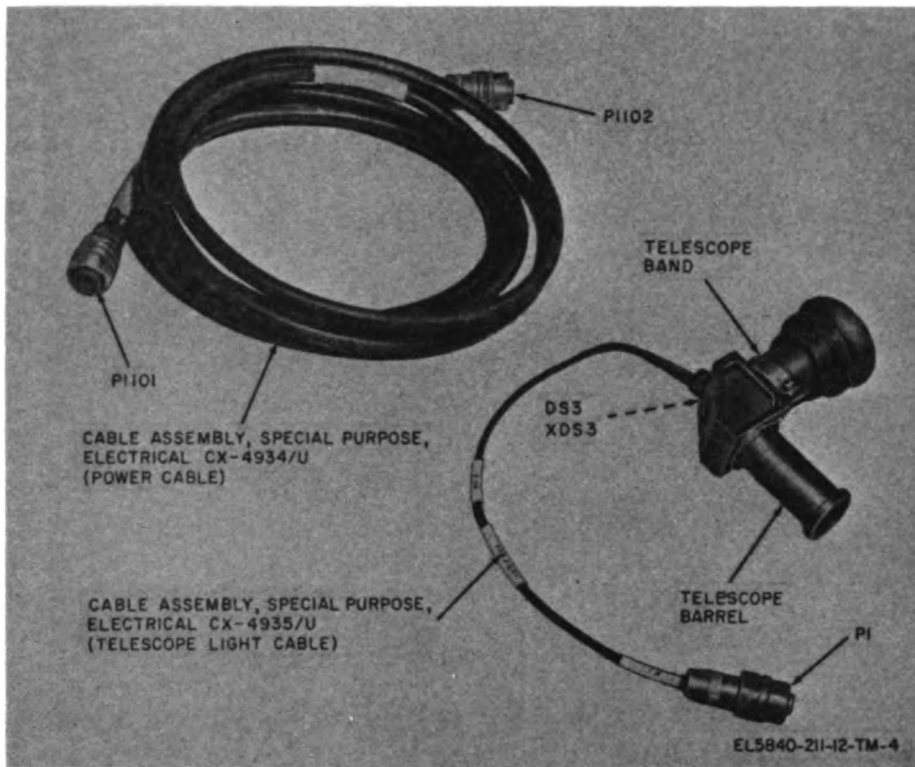

Figure 1-4. Cable Assembly, Special Purpose, Electrical CX-4934/U; Telescope, Azimuth M62A1C; and Cable Assembly, Special Purpose, Electrical CX-4935/U.
a. Power Cable (fig. 1-4). The power cable is 10 feet long and connects the battery and the 24 VDC BAT. ONLY receptacle on the receiver-transmitter control panel.
b. Telescope Light Cable. The telescope light cable (fig. 1-4) connects between the telescope and a connector on the receiver-transmitter. This cable carries power to the telescope lamp.
g. Telescope (fig. 1-4). The telescope provides an optical line-of-sight view by which the receiver-transmitter may be aimed in azimuth and elevation. The telescope is a three-power, fixed-focus type of instrument, with a field of view of 12 degrees, 10 minutes. The reticle pattern